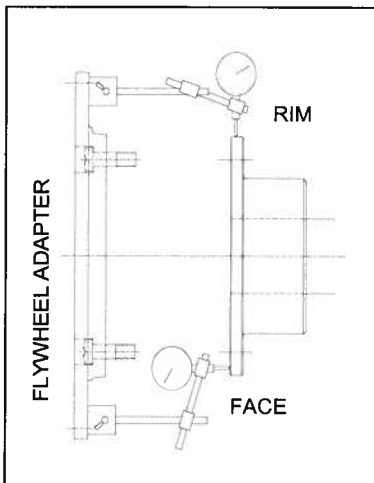

FIG. 3: DIAL INDICATOR MOUNTING FOR RIM & FACE READINGS
8. Alignment can be performed using laser equipment if available, or with dial indicators as described following. Attach a dial indicator's base to one hub or the flywheel adapter, and indicate a point on the other hub flange's outside diameter. See Figure 3.